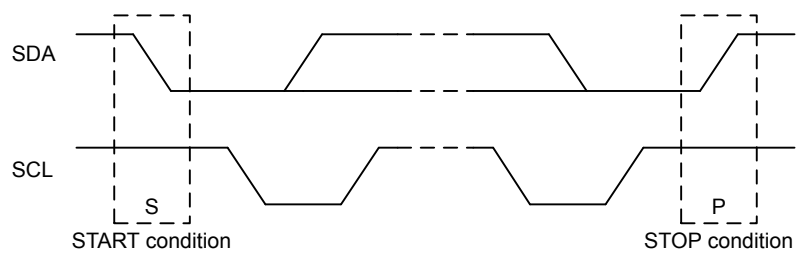

Figure 17.4. I2C START and STOP Conditions
START and STOP conditions are used to initiate and stop transactions on the I²C-bus. All transactions on the bus begin with a START condition (S) and end with a STOP condition (P). As shown in Figure 17.4 I2C START and STOP Conditions on page 559, a START condition is generated by pulling the SDA line low while SCL is high, and a STOP condition is generated by pulling the SDA line high while SCL is high.